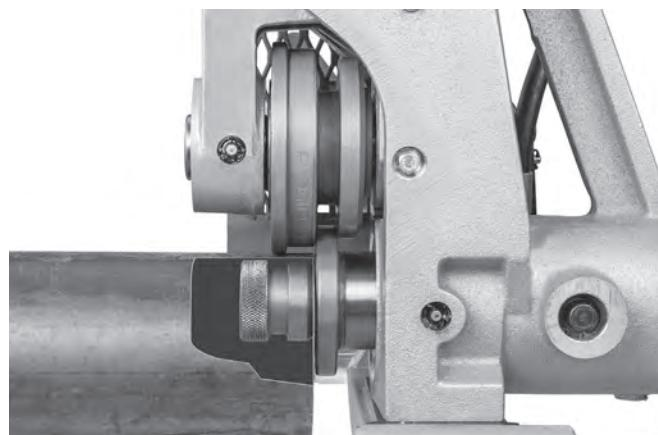

Figure 10 – Placing Pipe Over Drive shaft, Flush to Drive Shaft Flange (Stabilizer Removed for Clarity)
3. Appropriate pipe stands must be available to support the pipe. Adjust the height of the pipe stands so that the pipe will be level and the top inner diameter of the pipe will sit on top of the drive roll (See *Figure 10*).
4. Place the pipe on the stand(s) with the end of the pipe flush to the drive shaft flange and the inside of the pipe contacting the top of the drive shaft (*Figure 10*). Make sure the pipe is stable and secure.